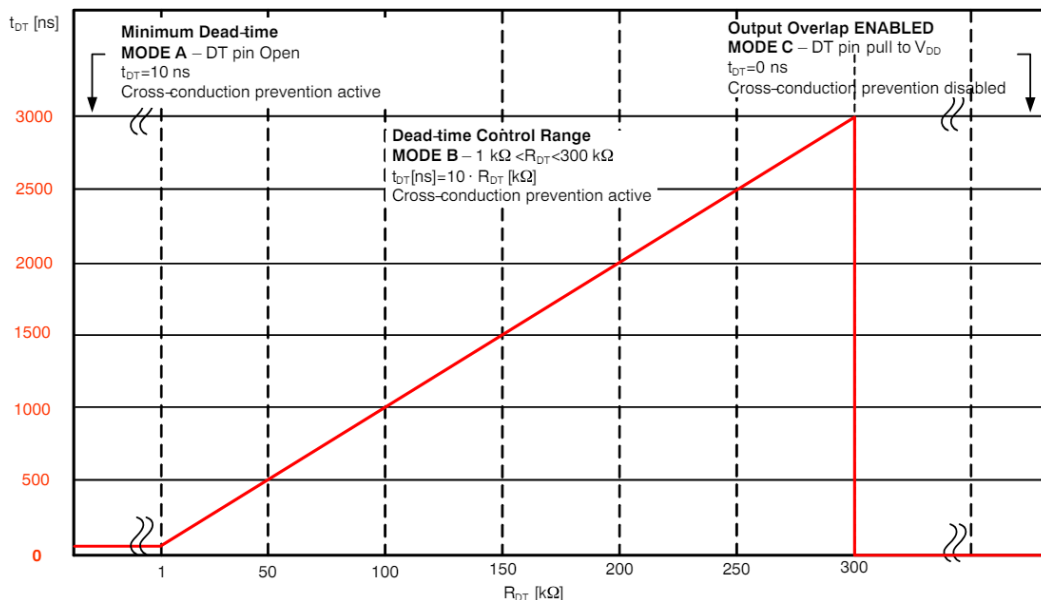

Figure 4. NCP51561 Dead Time Adjustment
+12 V Supply voltage terminal distributes 12 V to IC1 (NCP718) which 5 V LDO regulator that creates 5 V supply voltage suitable for IC2 NCP51561. The C1 and C4 are Input/Output decoupling capacitors intended to regulator while C2, C3 and C6 are VDD decoupling capacitors dedicated to Insulated driver or IC2. Resistor R3 serves as dead-time adjustment for NCP51561, while its value 10 kΩ gives approximately 100 ns dead time. The dead time (DT) between both outputs is set according to: $DT \text{ (in ns)} = 10 \times R_{DT} \text{ (in k}\Omega\text{)}$ as it shows Figure 4.